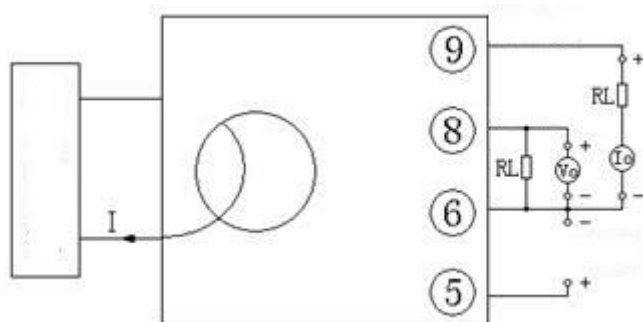

Figure 6, test wiring diagram of voltage or current output of product accuracy.
① A high-precision high-current meter calibrator can directly input current as shown in figure 6, and record the display data of the meter calibration instrument.
② There is no high-current high-precision instrument calibrator, but an ordinary high-precision instrument calibrator. Use ampere-turn method to output small current (5A, 10A or higher), and input it to the transducer input coil. The precision ammeter is tandem connection to the calibrator output end to detect input current, and convert the input current I value according to the ampere-turn method.